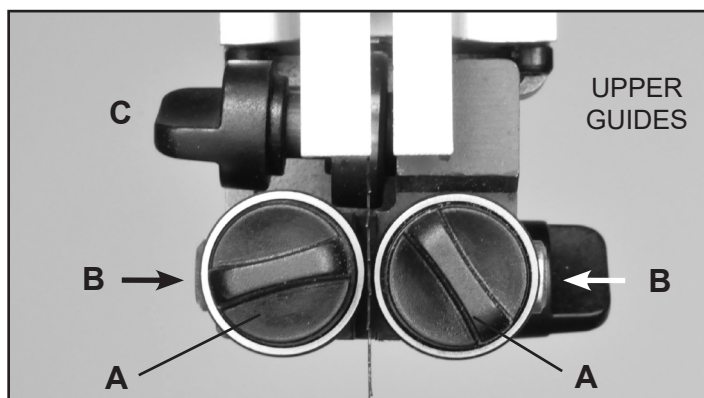
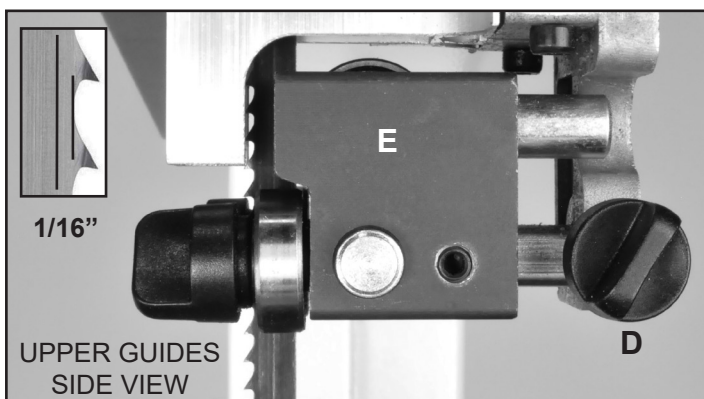

FIGURE 22
FIGURE 23
1. Position the right and left roller guides about 1/32" to the blade sides. First, loosen their front Lock Handles (#134, FIG. 22, A) by twisting them counterclockwise. The Guide Shafts (#154) that hold the guide bearings are spring loaded! To move the guides towards the blade, simply push the ends of the guide shafts (B), or use the front lock handles to pull the guides towards the blade. Lock the guides in place by turning them clockwise. FIG. 22.
2. The guides should be approximately 1/16" behind the gullets of the saw blade. If they need to be moved, loosen the back Clamp Handle (#134, FIG. 22 & 23, D) and move the Upper Guide Block (#153, E) that holds the guides so that the guides are properly positioned behind the blade gullets. Re-tighten the handle when done. FIG. 23.